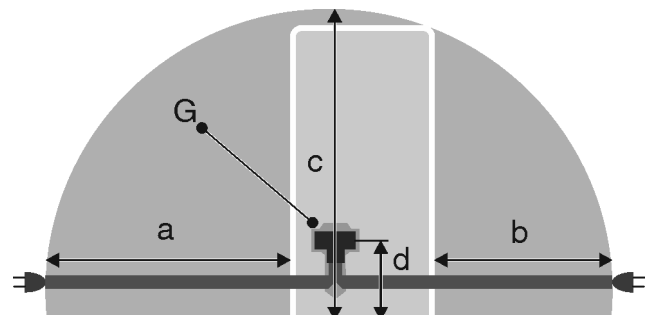

Fig. 23 Fridge/freezers / freezers / full-space BioFresh appliances
- The socket is not located behind the appliance but in areas a or b *Fig. 23 (a, b, c)*.
- ▶ Insert the appliance plug *Fig. 23 (G)* into the back of the appliance. Ensure that they latch into place.